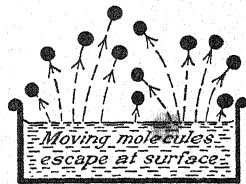

FIG. 11. — During evaporation molecules escape at the surface of the liquid.
**21. What Is the Kinetic Theory of Matter?** Several facts show quite conclusively that the molecules of matter are always in motion. The fact that liquids evaporate is one evidence of such motion. (See Fig. 11.) The decided odor of camphor, musk, and naphthalene (moth balls) is proof that the molecules of solids are in motion. Gas rushes out of a stop-cock when it is opened, and both gases and liquids intermingle through a porous membrane. The kinetic (*kinein*, "to move") theory assumes that the molecules of matter are in constant motion.